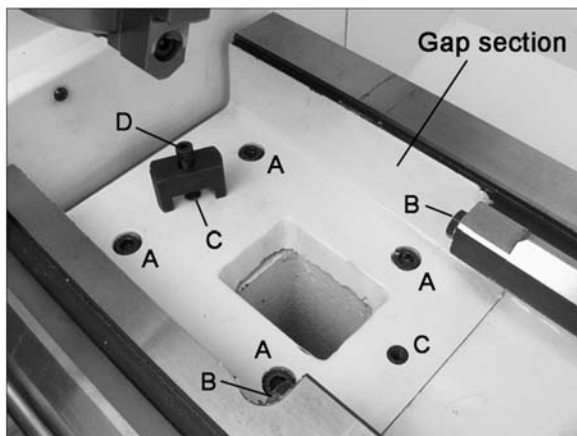

Figure 33 – Gap section
1. To remove the gap section (Figure 33), remove four socket head cap bolts (A) and two socket bolts at the ends of the rails (B).
2. Remove two tapered alignment pins (C) by placing the provided gap bridge pin driver (D) over them and threading its screw down into them, until the pins are loosened enough to be pulled out.